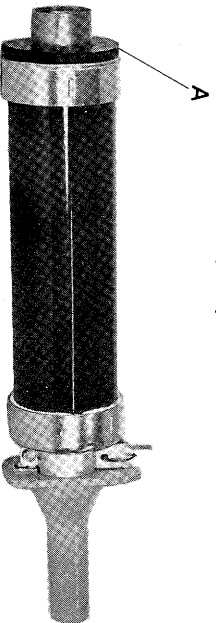

Fig. 29
The fuse handle with the clamp contact is attached to the end of the fuse link equipped with the striker pin. The clamp contact shall lie onto the shoulder of the fuse link and is finally clamped by the screw, Fig. 29.
The thermoplastic guide ring, Fig. 29 (A), is put out to the shoulder of the fuse. The guide ring secures a correct entry of the fuse link into the tulip contact at the bottom of the fuse box, Fig. 4 (38).